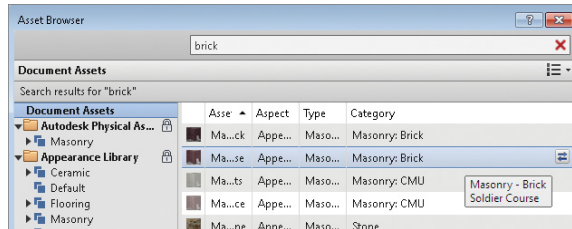

FIGURE 9.5 Assigning an appearance asset to a material
6. In the Asset Browser dialog, find the search box at the top of the dialog. Search for the word *brick*. Many different brick materials appear; any of these will do. Choose one, double-click, or click the double-arrow button as shown in Figure 9.5 to assign the Brick appearance asset to the brick material.